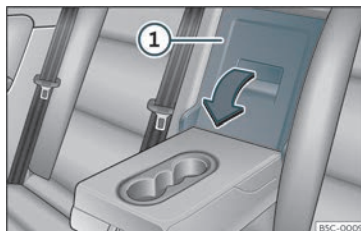

Fig. 129 In the rear seat backrest: opening the trapdoor.
- Pull the release lever in the direction of the arrow and push the tailboard cover »» **Fig. 129** ① down and forwards.